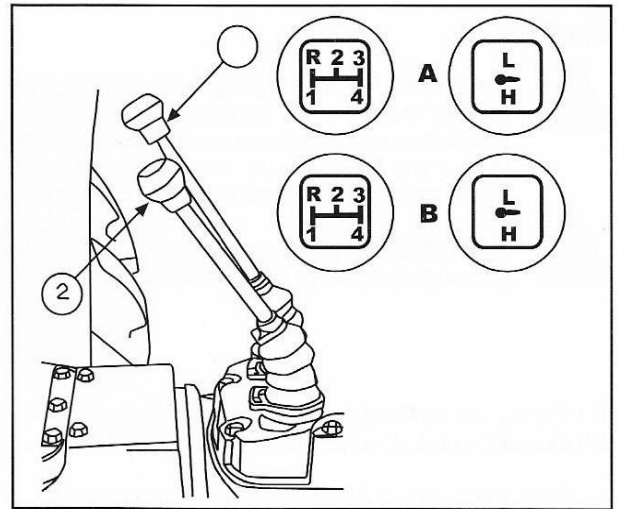

Fig. 38
The main gear lever 'A' (1, Fig. 38) provides the operating gears within the range selected. The range lever on the right (2) selects the range, forwards for LOW (L) and backwards for HIGH (H) range.